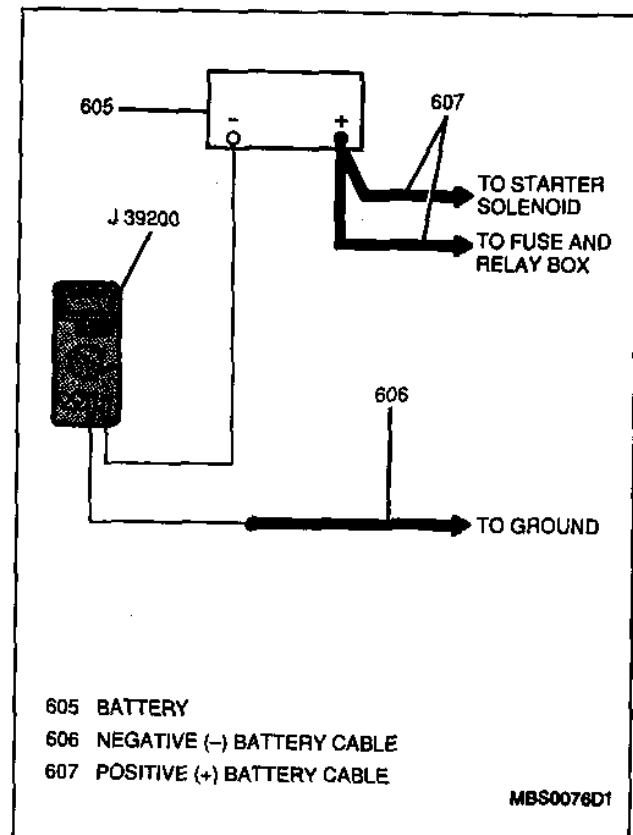

Figure 7—Parasitic Load Test with J 39200 Digital Multimeter
6. If a parasitic load drain less than 0.5 amperes is present, disconnect and remove the ammeter and connect a J 39200 between the negative (-) battery terminal and the negative (-) battery cable (Figure 7). Set the selector switch to Milliamp/Microamp Input Terminal scale.